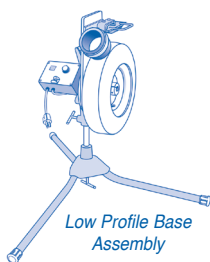

Figure 6
- Install the three legs with the curved part closer to the base (Figure 6.) Use this position for softball or field hockey.
1. Follow the assembly instructions for the “Low Profile” setup as shown in Figure 6 on Page 13.